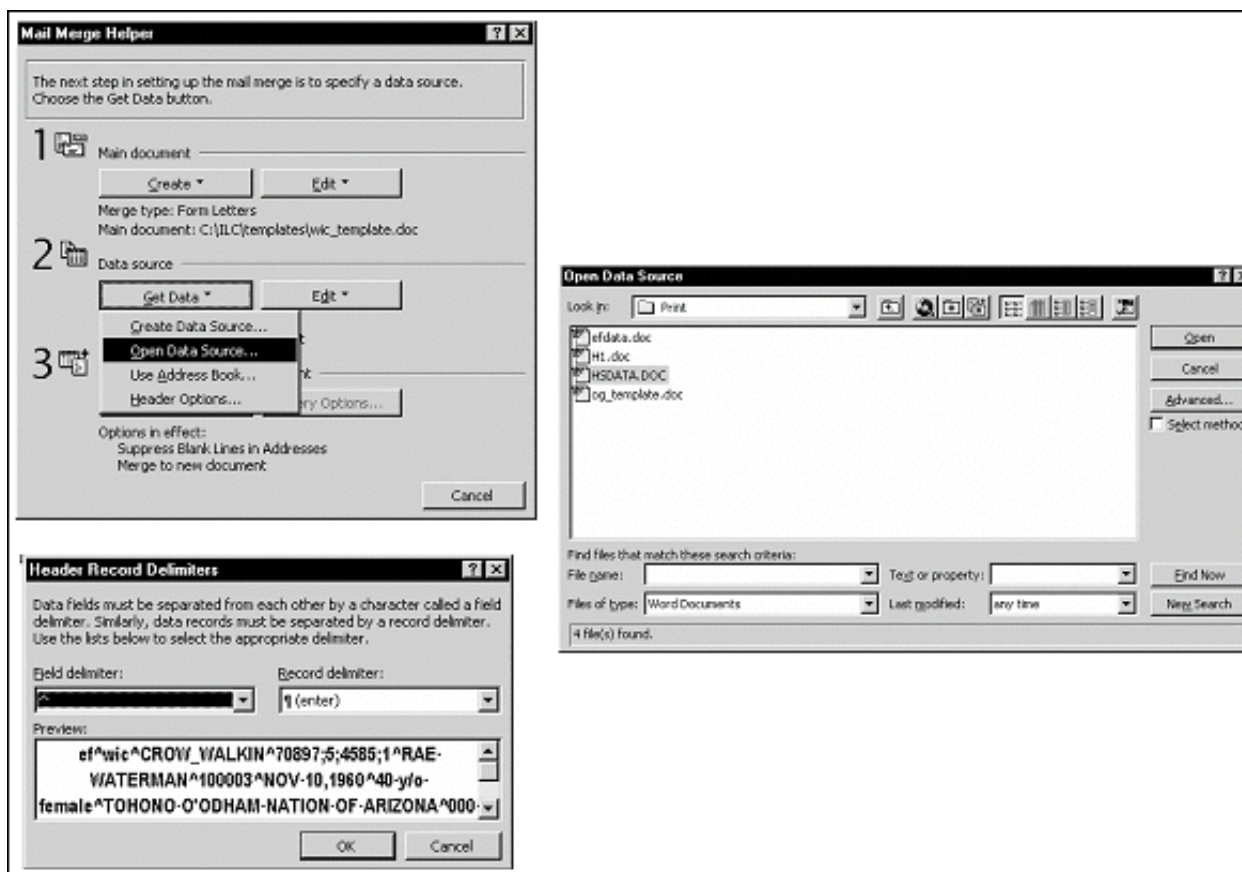

Figure 6-64: Check the Health Summary Template, Steps 8-11
8. Click the Get Data button again. A dropdown menu will appear (Figure 6-64). Click the Open Data Source option. The Open Data Source window will open.